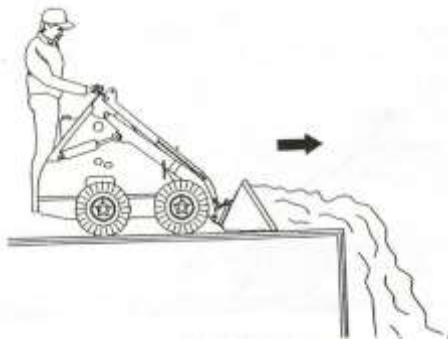

Figure 17
1. When filling a trench or a hole, drive up to the hole with bucket low or push material up to edge, as in Figure 17.